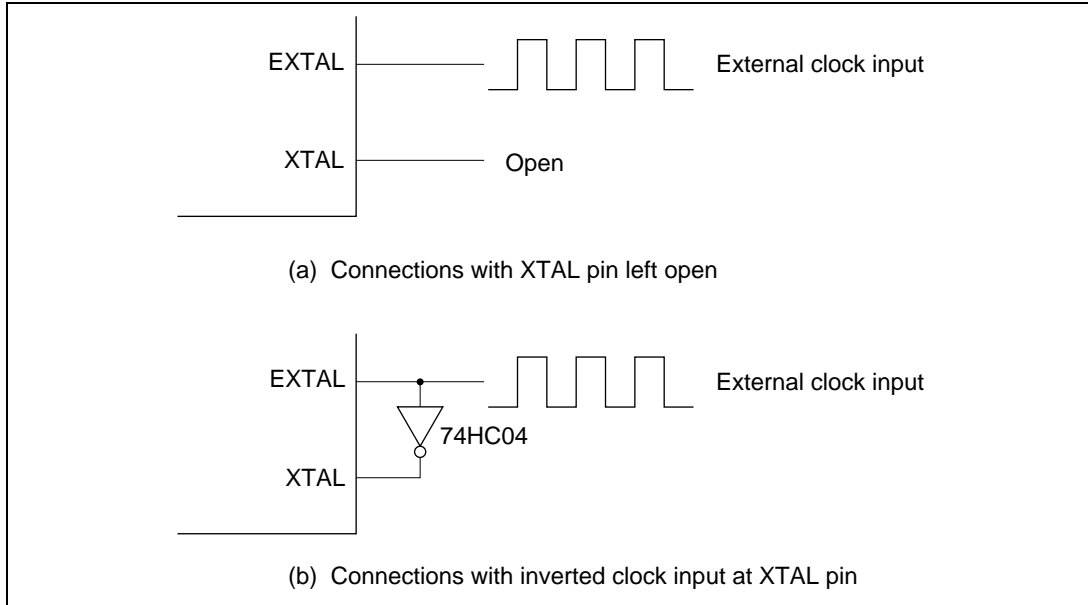

Figure 6-5 External Clock Input (Example)
(1) **Circuit Configuration:** An external clock signal can be input as shown in the examples in figure 6-5. In example (b) in figure 6-5, the external clock signal should be kept high during standby.